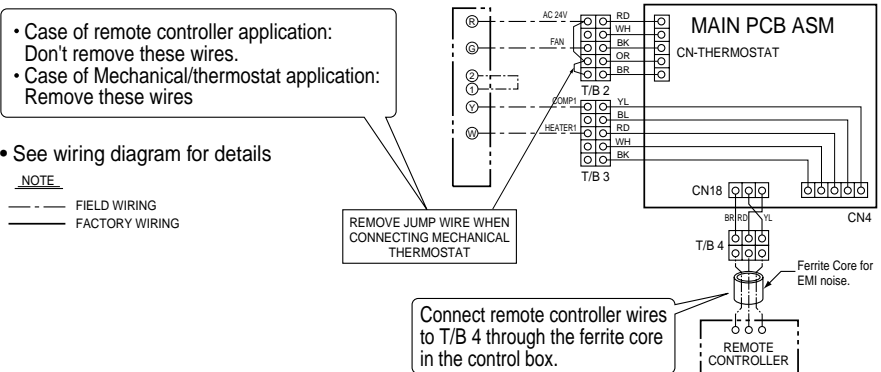

Figure 5A
■ Cooling only - 1 Comp, 1 Heater(Figure 5A) Thermostat(Cooling only model)